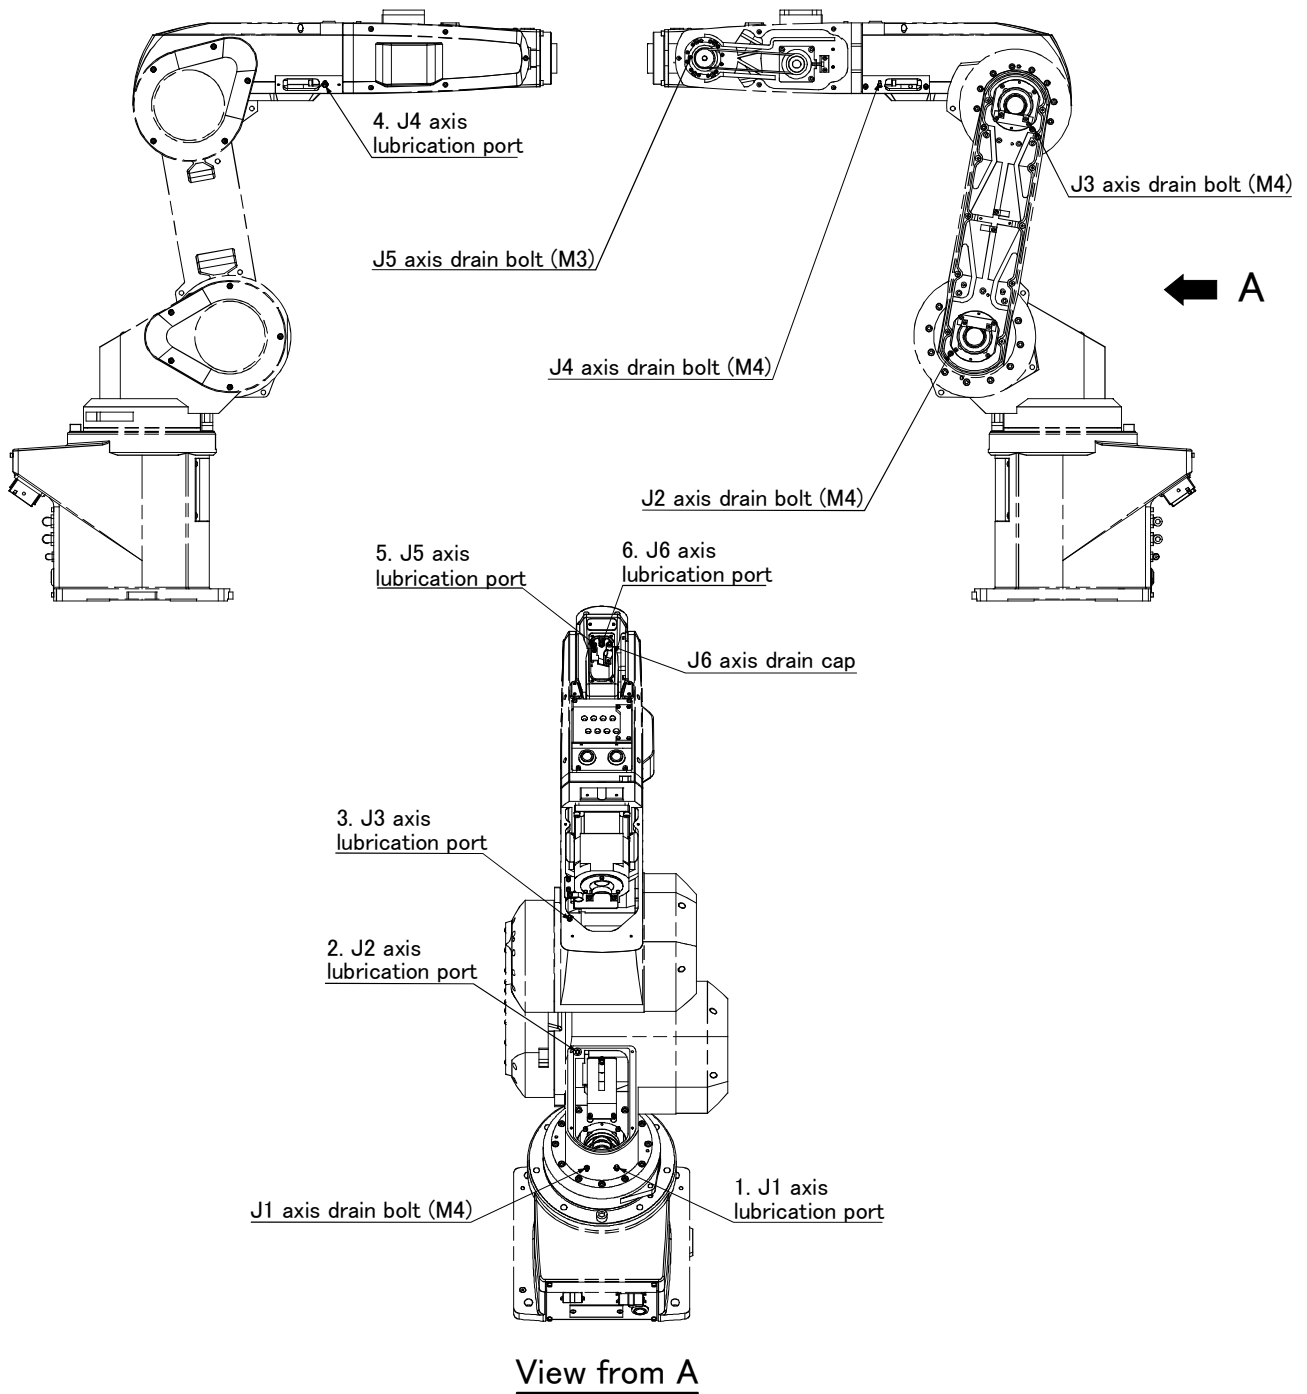

Fig.5-6 : Lubrication positions
The grease nipple position is shown in . The lubrication specifications for each place are shown in Fig. 5-6
- The numbers in the correspond to the supply positions in Fig. 5-6.
- 1) Set the robot to the posture shown in Fig. 5-6.